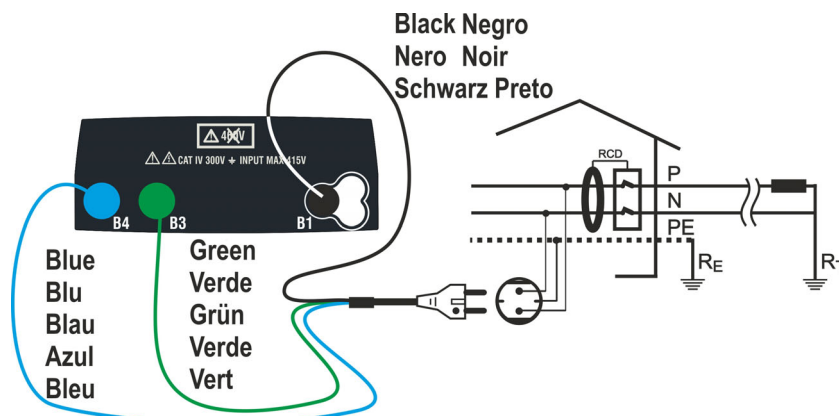
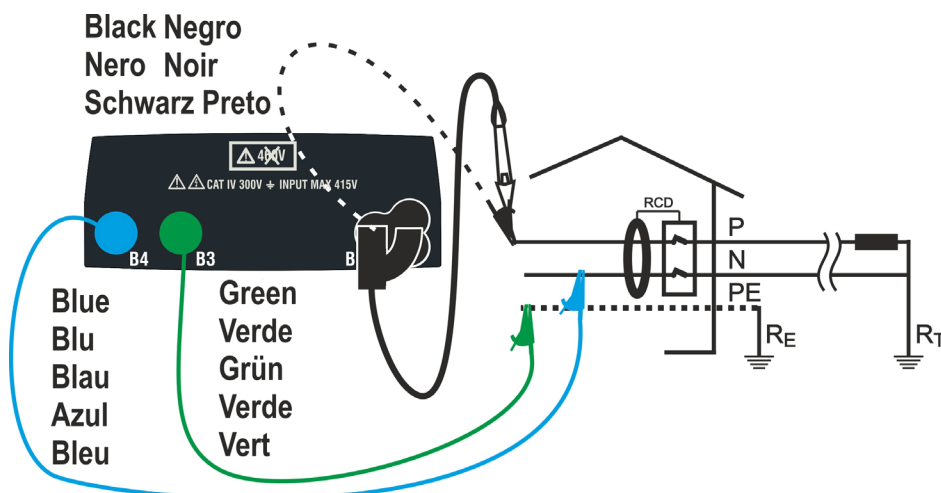

Fig. 4: Instrument connection through mains plug
Fig. 5: Instrument connection by means of single cables and remote switch probe
3. Insert the green, blue and black connectors of the three-pin plug cable into the corresponding inputs B1, B3 and B4 of the instrument. As an alternative, use the single cables and apply the relevant alligator clips to the free ends of the cables. It is also possible to use the remote switch probe by inserting its multipolar connector into the input B1. Connect the plug, the alligator clips or the remote switch probe to the electrical mains according to Fig. 4 or Fig. 5